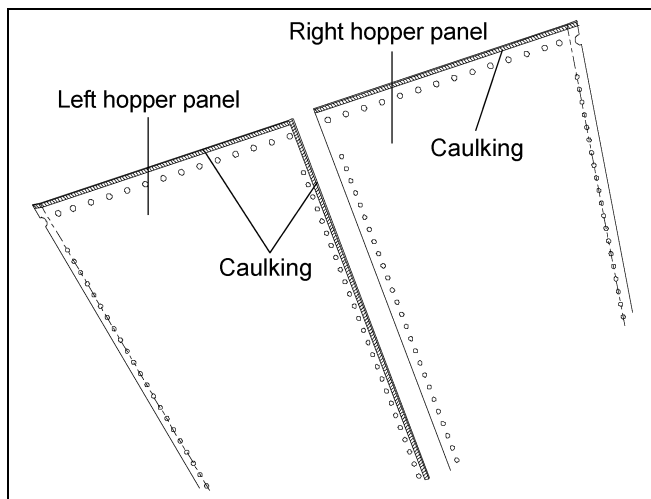
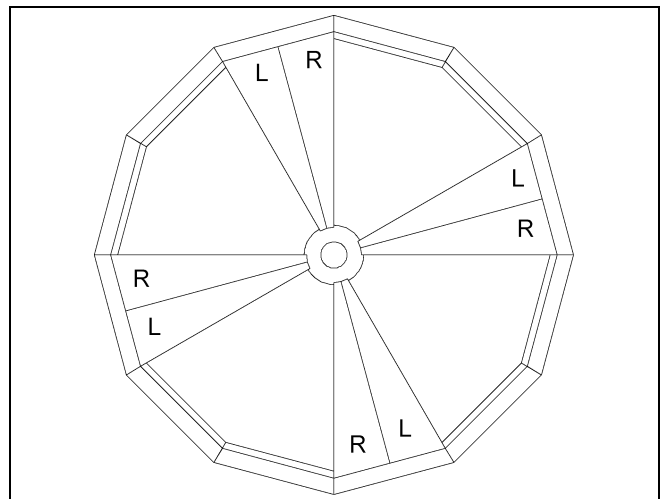
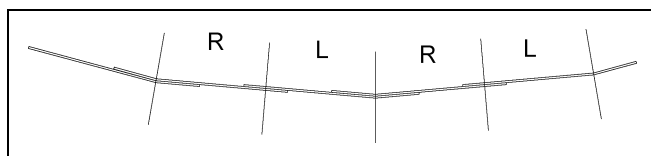

Figure 6C Caulking Detail
Figure 6F Hopper Panel and Discharge Collar Assembly
Figure 6D Lap Detail (Viewed from Inside of Bin)
Begin assembling the hopper bottom by attaching a right and left pair or pairs of hopper panels to the compression angle ring ($5/8"$ x $1-1/2"$ hex head bolts) and discharge collar ($3/8"$ x $1"$ hex flange head bolts) at four (4) opposing points. (See Figure 6F.) The left and right hopper panels can be assembled ($3/8"$ x $1"$ hex flange head bolts) prior to attachment to the compression ring. Caulking is required on the vertical seams of the lapped hopper panels. (See Figure 6C.) Complete assembly by positioning pairs of right and left hopper panels while moving around in one direction and lapping all sheets in the same way. (See Figure 6D.) Do not tighten bolts until all hopper panels are attached to each other, the compression ring and discharge collar. When ready to tighten, start at the bottom of the hopper and tighten all bolts. This will include hopper panels bolts, hopper collar bolts, compression ring bolts, compression splice bolts, column bracing bolts and anchor bolts.